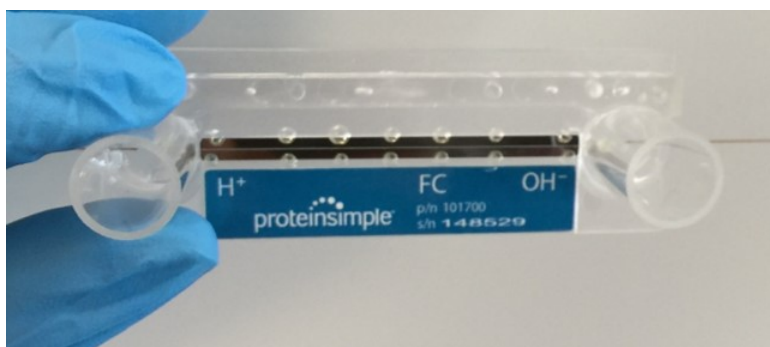

Figure 10-1: Proper cIEF Cartridge handling.
- When handling the cIEF Cartridge, grasp it at either electrolyte tank only (Figure 10-1). Avoid touching other surfaces of the cartridge.